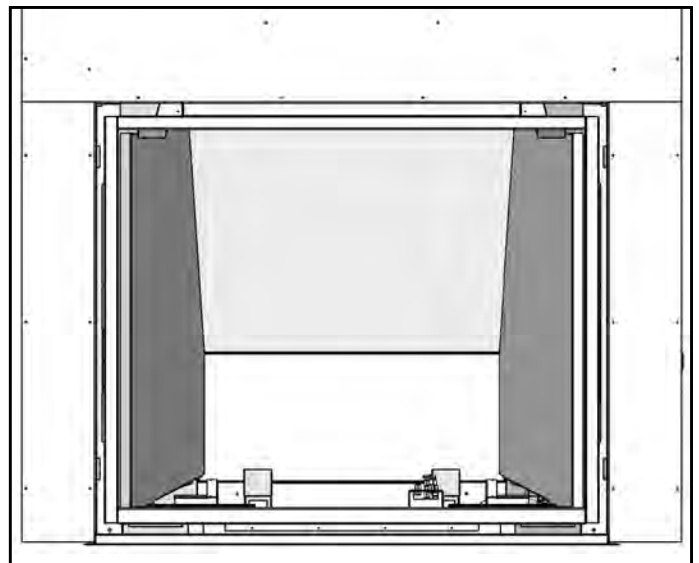

Figure 83: Top Porcelain Panel in Place.
5. Install the Top Panel by placing it on top of the Rear Panel and behind the Left Panel (see Figure 83). Hold it with one hand or have someone else hold it for you while you place the last panel. **WARNING:** If this panel falls from this location it will possibly break or the paint work will become chipped.